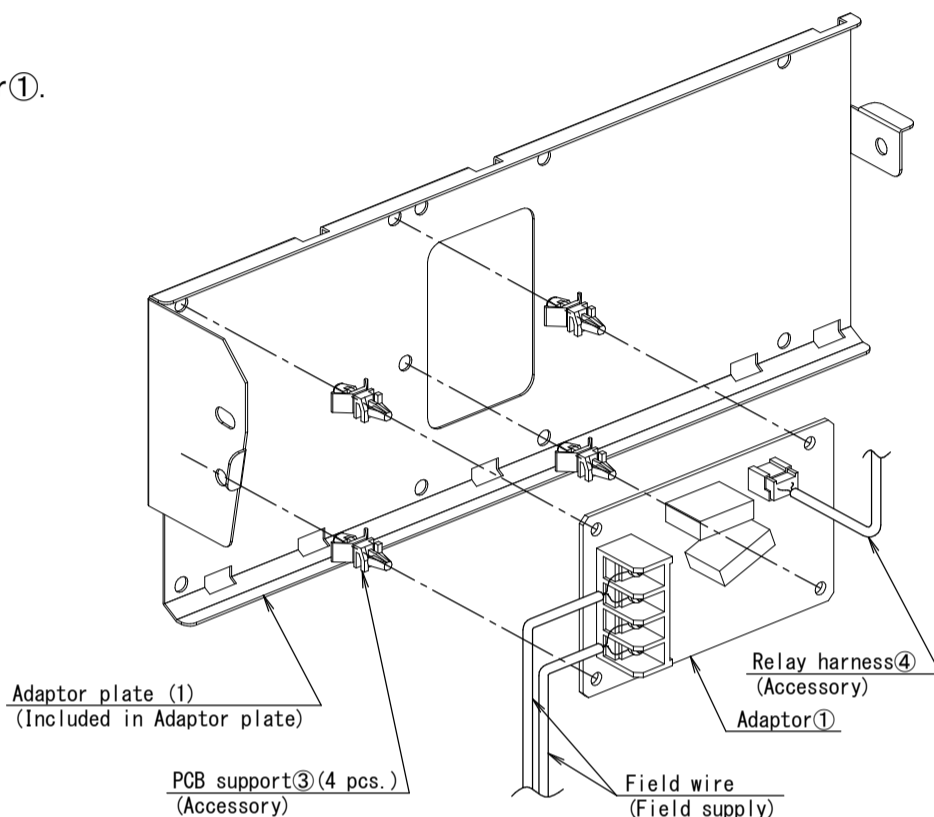

Figure 1
- (2) Mount the Adaptor① on the Adaptor plate with the PCB supports③. (Figure 1)